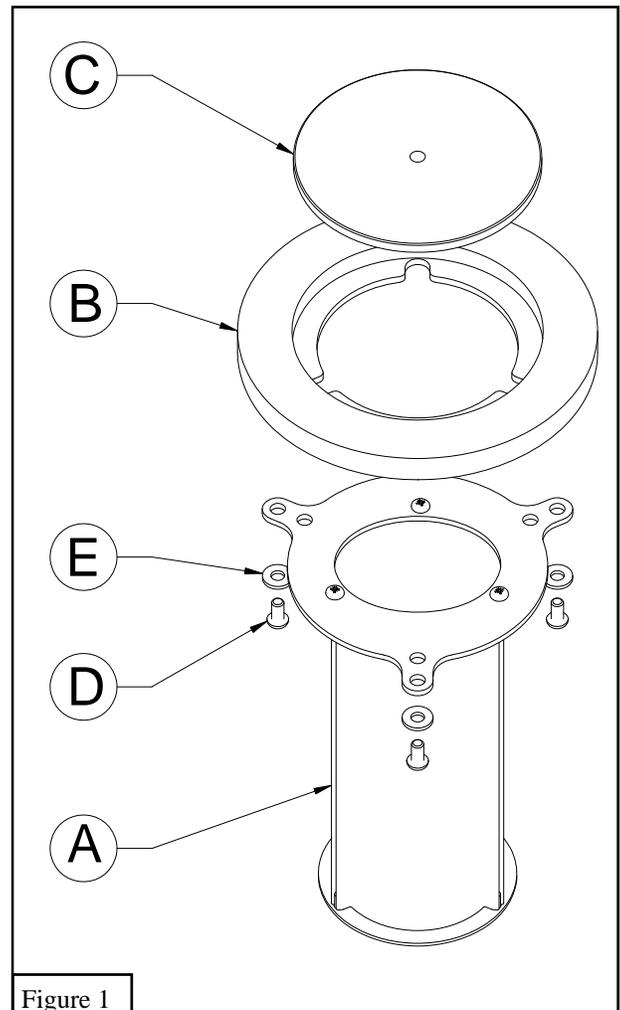

Figure 1
1. Use the 5/32" Hex Key (F) to attach Cover (B) to the Socket Assembly (A) with the 1/4" Button Head Screws (D). Make sure the 1/4" Flat Washers (E) are in between the 1/4" Button Head Screw (D) and Socket Assembly (A). See Figure 1.